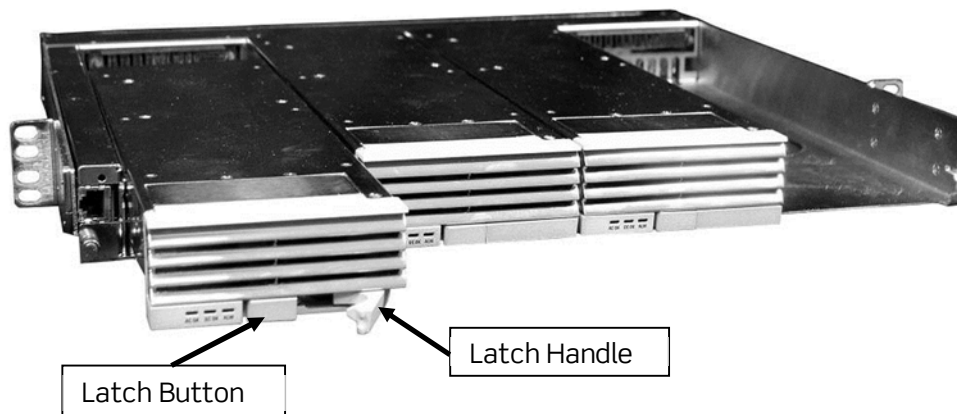

Figure 22 - Rectifier Removal
2. When input breakers are on, install rectifiers sequentially by sliding each rectifier into position and closing the latch as shown in Figure 22.
The rectifier is hot swappable and can be removed without affecting operation of the other rectifiers. If a rectifier needs to be removed, press the latch button on the front of the unit, and pull the handle until the unit slides out of the slot. With the latch open (Figure 22), slide a new rectifier into the open slot until it connects with the backplane. After the rectifier is inserted, close the latch by pressing it. The rectifier will power up and the controller will configure it automatically. No further setup is required.